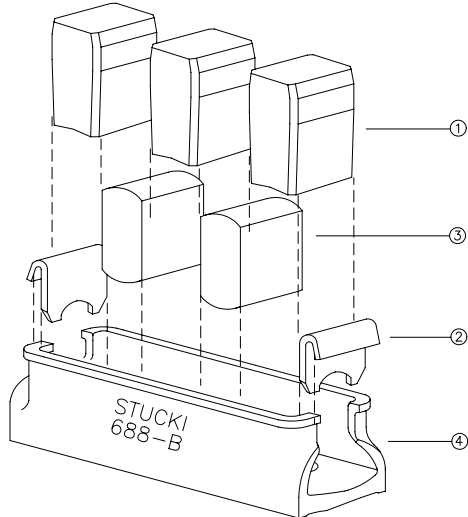

Figure 1. 688-BR Components
The Stucki model 688-BR is a non-metal capped constant contact standard travel side bearing*. The 688-BR side bearing consists of ① three resilient blocks (RB-9), ② two hardened steel cage end-closures, ③ two 4" x 2" rockers and ④ one 688-B side bearing cage. The 688-BR components shown in Figure 1 should not be assembled into any other side bearing housing unless specifically approved by A. Stucki Company.
VI. INSTALLATION OF COMPONENTS INTO CASE (see Figure 1)
1. Insert the end closures ② into place.
2. Position the three resilient blocks and two steel rocker elements as indicated in Figure 1.